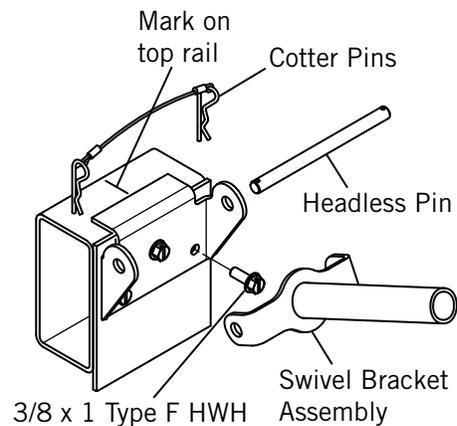

Figure 18-2
- 2) **Figure 18-2.** Drill a pilot hole and attach with 3/8 x 1 type F HWH bolts. Repeat for opposite side.
- 3) **Figure 18-2.** Attach swivel bracket assembly to base with headless pin and cotter pins.